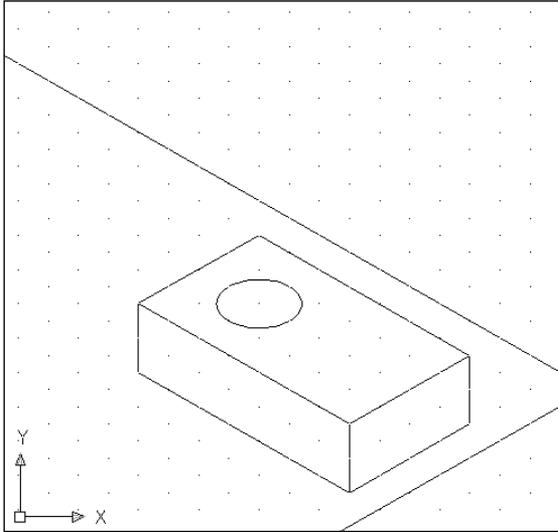

Figure 8-26: The completed iron plate with a hole in it, drawn isometrically.
13. Choose Ellipse from the Draw toolbar. Right-click and choose Isocircle from the shortcut menu. At the Specify center of isocircle: prompt, choose 5.1962,3. At the Specify radius of isocircle or [Diameter]: prompt, type .5 ↵ to draw the ellipse. Your drawing should look like Figure 8-26.